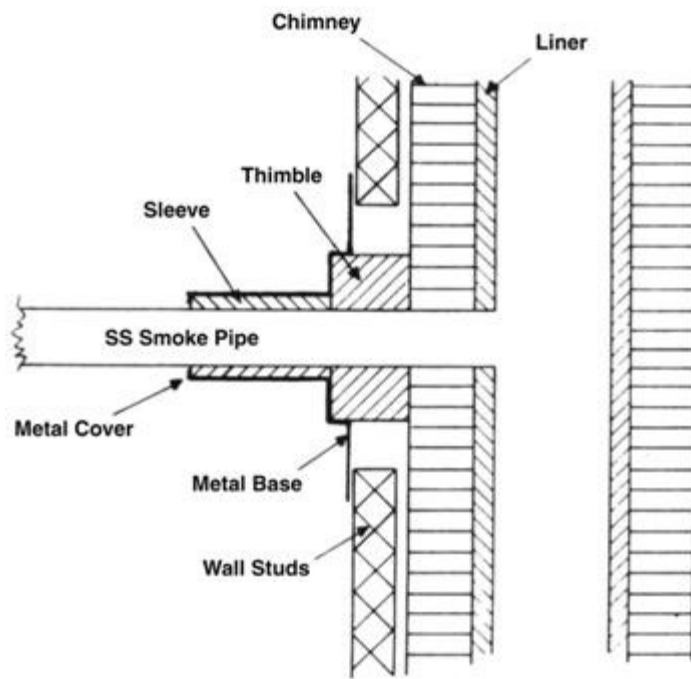

Figure 8: Wall Cross Section
5. Before final insertion of the Thimble, install one length of stainless steel smoke pipe making sure that the pipe is long enough so that there is no joint within the INSUL-FLUE®. Make sure that the stainless steel smoke pipe is inserted to the extent that its inner end is flush with the inner surface of the chimney liner. (See Figure 8)
7. Using the four shorter screws provided, secure the Metal Cover/Sleeve to the Metal Base. When fastened, the entire assembly will be firmly held in position such that the Thimble is in contact with the chimney and the Sleeve is held against the Thimble. (See Figure 8)